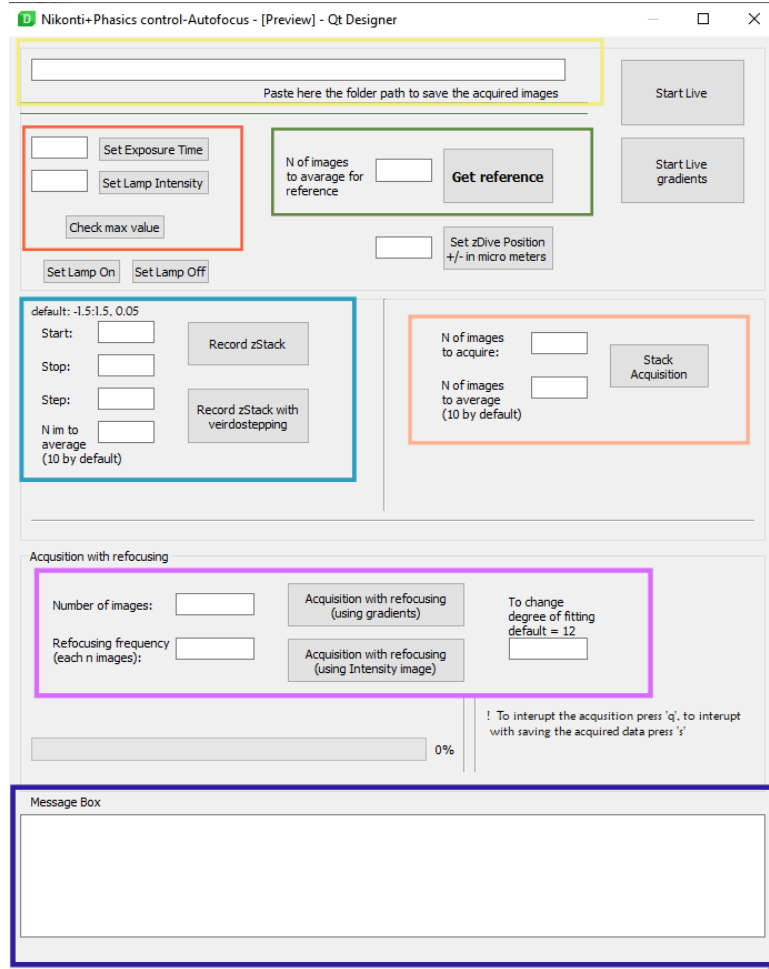

Figure 4: GUI window for transmission illumination setup
If the installation and MM initialization were successful, the GUI window should appear (figure 4). It is possible that you may encounter some issues; if standard troubleshooting methods (such as searching StackOverflow) don't resolve the problem, do not hesitate to contact me).
1. Create a folder where you will save all the acquired data, and insert the path into the line (figure 4, yellow box).
2. For reference, there are two important parameters to enter: Exposure Time and Lamp Intensity. Typically, the exposure time in our experiments was set to 80 ms, and the lamp intensity was adjusted to values between 7 and 8 (depending on the sample; if the tissue was thicker, the intensity needed to be increased). To properly adjust these values, you can use the "Check max value" button. The value will be displayed in the message box of the GUI. Ensure that there is no saturation, and it is preferable to keep the value around 40,000 to 50,000 (assuming 65,000 is the maximum) (figure 4, red box).
3. To acquire the reference, enter the number of images to average (typically set to 200) and press the "Get reference" button (figure 4, green box). During the reference acquisition, move the XY stage around the sample quickly; you may also slightly adjust the focus knob. The goal is to obtain an averaged wavefront from the specific sample. A new reference must be acquired for every new sample. The obtained reference will be displayed in the Napari Viewer. Ensure that the fringes of the interferogram are clearly distinguishable (ex: figure 4, b).
6. Once you defined the field of view it shouldn't be moved and the reference z-stack can be recorded. There are two possibilities: to record full z-stack, with regular stepping (by default = $0.05\ \mu\text{m}$) or to use weirdstepping ($0.05\ \mu\text{m}$ around 0 position in the range of $[-0.4, 0.4]\ \mu\text{m}$, and bigger steps ($0.2\ \mu\text{m}$) further from it). There is also such parameter as "N im to average" (default = 10), can be changed if required (smaller will increase the speed) (figure 4, blue box).
7. **Acquisition with refocusing.** You will need to input the 'Number of images' you plan to acquire and the 'Refocusing frequency,' which determines how many images will be captured between each refocusing step. There are two methods available for refocusing: using gradient images (as described in the article) or using only intensity images. The intensity-based option was added to allow the software to be used even when the QLSI module is unavailable. In such cases, adequate autofocusing performance can still be achieved using standard EMCCD or sCMOS cameras with intensity images (see figure 4, purple box). A graph displaying the determined drift and the cross-correlation (CC) curve at each autofocusing step will appear, enabling you to monitor the system's performance.
8. There is also an option to record a stack of raw images (interferograms in the case of the QLSI module), which can be analyzed later. This is typically used to assess the drift present in the sample during acquisitions without active refocusing. (figure 4, orange box). It is recommended to not record too large stacks of images and to limit the acquisitions to 300 frames (*Note : for the moment the stacks are continuously saved into single file. It will be modified in near future*)
9. Important messages and descriptions of the actions being performed will be displayed in the 'Message Box.'(figure 4, dark blue box).